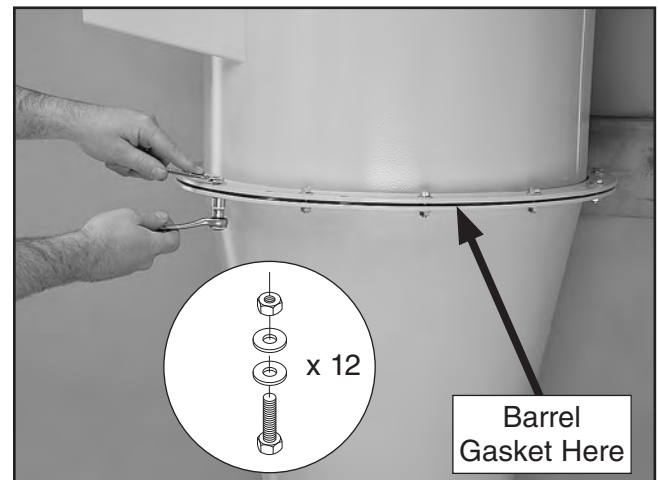

Figure 16. Cyclone funnel attached to intake barrel.
- Attach the cyclone funnel to the intake barrel with a barrel gasket between them, as shown in **Figure 16**, using (12) $\frac{5}{16}$ "-18 x 1" hex bolts, (24) $\frac{5}{16}$ " flat washers, and (12) $\frac{5}{16}$ "-18 hex nuts; also secure the wall mounting brace to the lip of the intake barrel/funnel assembly with the same hardware.